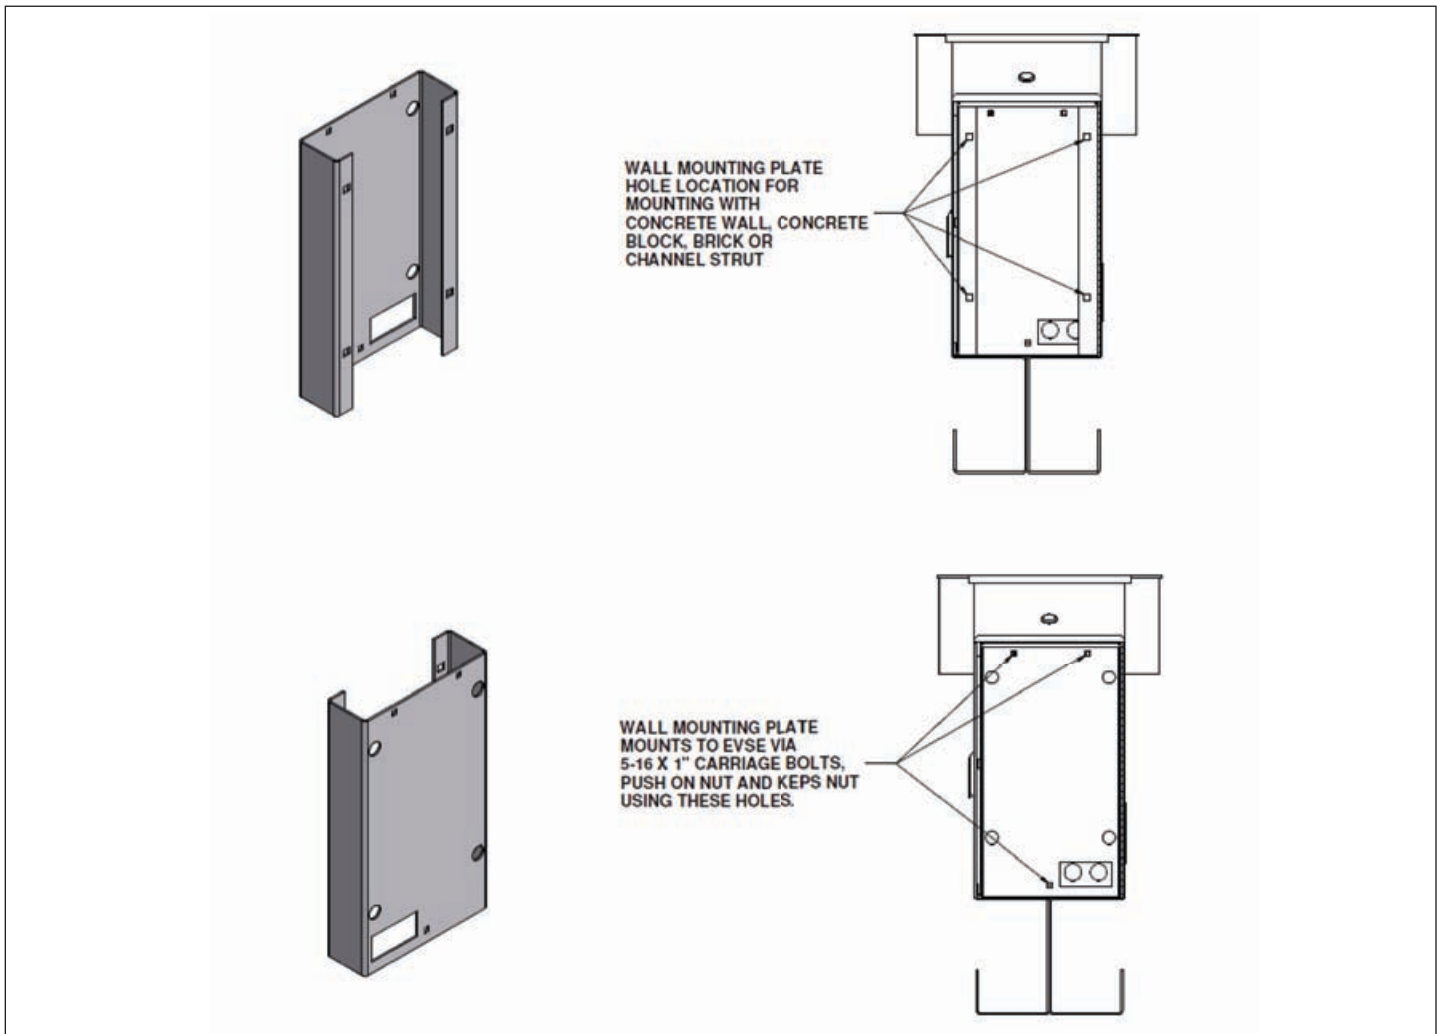

Figure 5. Typical Wall Mounting.
- Step 4:** Attach mounting plate to the wall as shown in **Figure 5**. If installing on a wood stud, use 5/16" or 3/8" x 3" long Lag screws and washers. These should be galvanized or stainless steel for weather protection if mounting outdoors. If mounting onto a concrete, block, or brick wall, use an appropriate anchor for the type of wall on which you are installing the unit. Again, these should be appropriate for weather conditions if mounting outside.